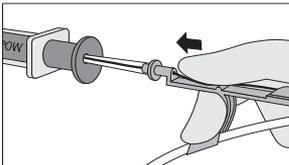

Figure 6
- Raise thumb and pull Arrow Advancer approximately 4 - 8 cm away from Arrow Raulerson Syringe or introducer needle. Lower thumb onto Arrow Advancer and while maintaining a firm grip on guidewire, push assembly into syringe barrel to further advance guidewire (refer to Figure 6). Continue until guidewire reaches desired depth.